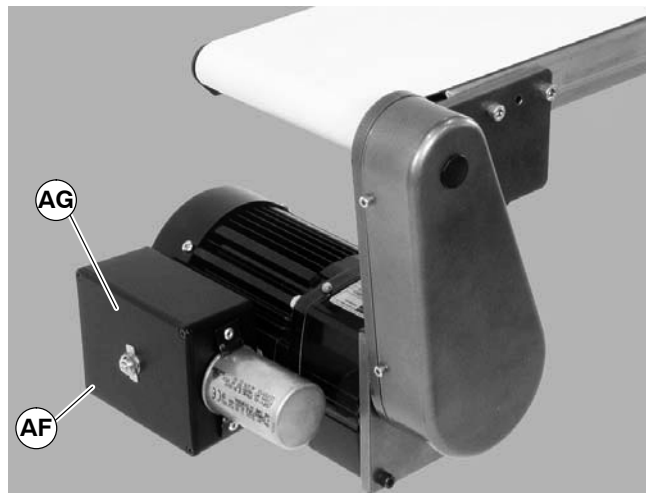

Figure 17
- a. Loosen terminal box screws (AF of Figure 17) and remove cover (AG).